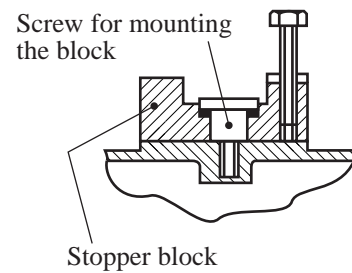

Figure 6
- c) If the stopper block of the base is disassembled, apply the screw lock super 20Q into the screw for mounting the block to prevent loosening. Use care that the adhesive may not be overflowed onto the moving point of the stopper block. (See the figure 6.)